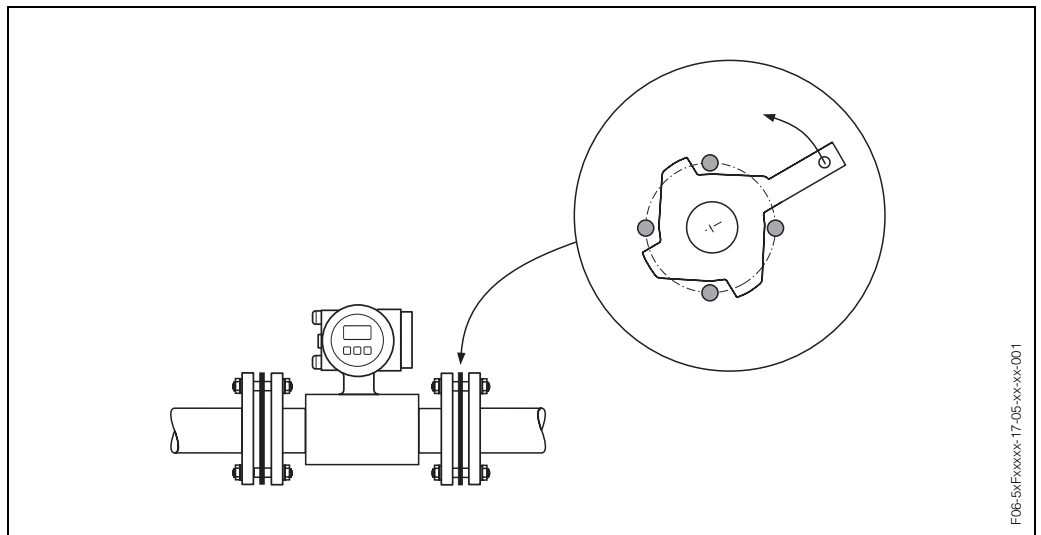

Fig. 19: Assembly with ground disks (Promag P, DN 15...300)
1. Place the ground disk and the additional seal between the instrument and the pipe flange (Fig. 19).
3. Now rotate the ground disk as shown in Fig. 19 until the handle strikes the bolts. This will center the ground disk automatically.